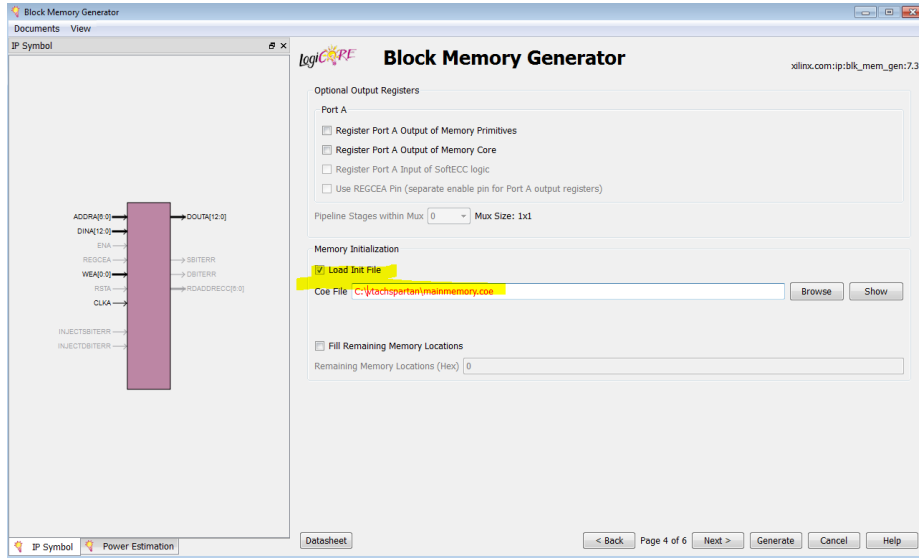

Figure 5-23 Add memory initialization file
- On page 4 (Memory Initialization), check Load Init File and browse to the mainmemory.coe file in your vtachspartan directory, as seen in Figure 5-23.